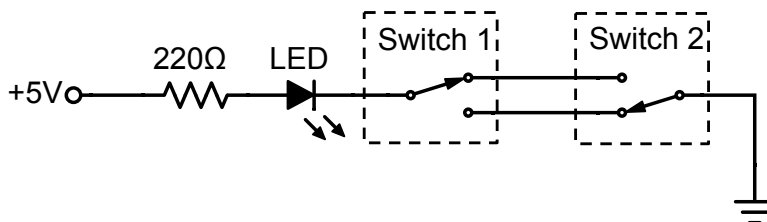

Figure 4 – A 3-way switch circuit allows the LED to be turned ON and OFF using either switch.
1. Sketch the circuit diagram shown in Figure 4 in your lab notebook.